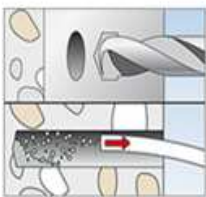

Figure 1
- 2. Drill **70 mm deep** into the substrate with a **masonry drill bit (Ø 20 mm)**. Now clean the drill hole by vacuuming out the drill dust [Fig. 1].